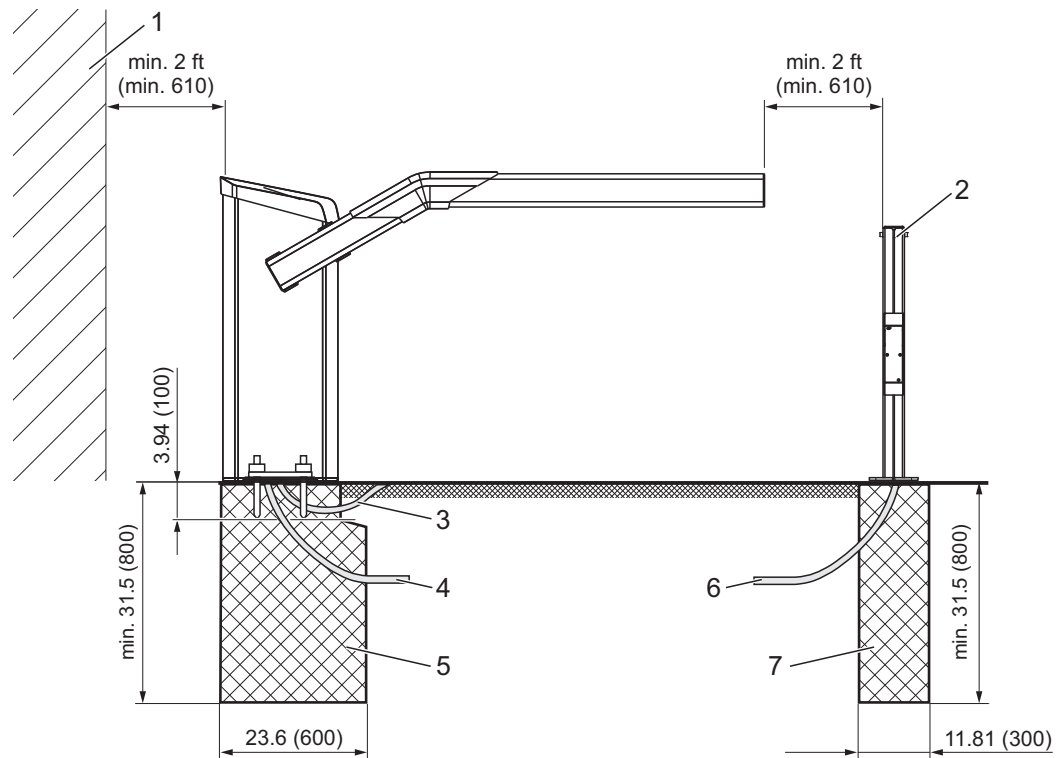
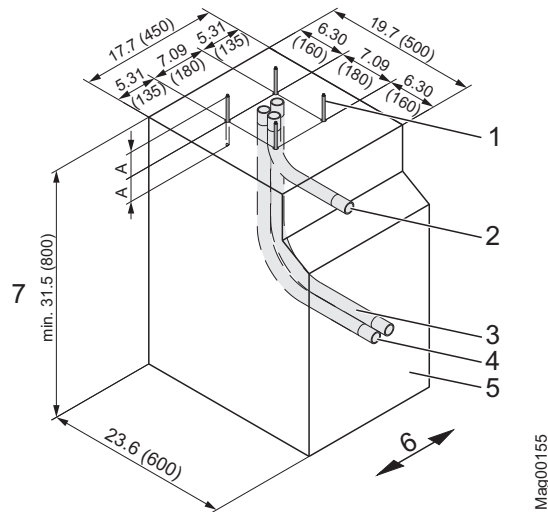
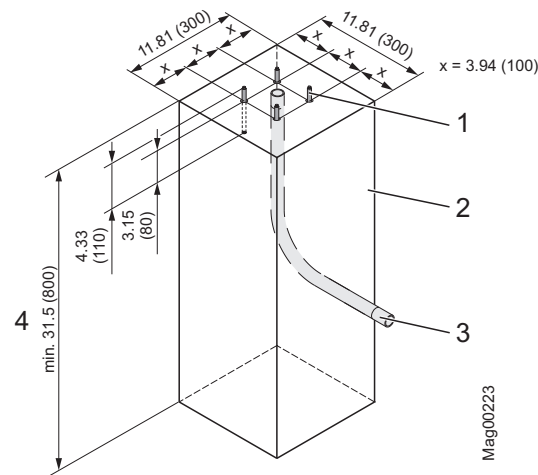

Fig. 13: Assembly barrier system
Fig. 14: Foundation plan
Fig. 16: Foundation plan for light barrier post
<p>Danger of crushing and shearing when the barrier opens or closes!</p> <p>When a barrier opens or closes, the barrier arm may lead to severe crushing or injury!</p> <ul style="list-style-type: none"> – Keep a safety distance of at least 2 ft (610 mm) between the barrier arm and other objects, such as walls, masonry or houses. → See also page 25, chapter 2.7. – Install the barrier system only when all exposed pinch points are eliminated or guarded. – Assemble and install barrier system according to Fig. 13. – Controls intended for user activation must be located at least 6 ft (1.83 m) away from any moving part of the barrier and where the user is prevented from reaching over, under, around or through the barrier to operate the controls. Outdoor or easily accessible controls shall have a security feature to prevent unauthorized use.
→ See page 25, chapter 2.7 and page 51, Fig. 13.
→ See page 51, Fig. 13 and page 53, Fig. 14.
→ See page 53, Fig. 14.
1. Dig foundation hole pursuant to Fig. 13 and Fig. 14.
3. Place empty conduits pursuant to Fig. 14 in the foundation hole.
5. Fill concrete foundation pursuant to Fig. 13.
→ See page 51, Fig. 13 and page 55, Fig. 16.
1. Dig foundation hole pursuant to Fig. 13 and Fig. 16.
2. Place empty conduit pursuant to Fig. 16 in the foundation hole.
4. Fill concrete foundation pursuant to Fig. 16.